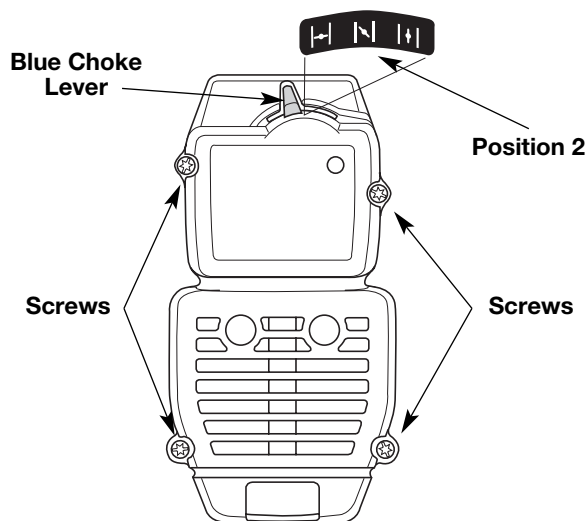

Fig. 21
2. Remove the four (4) screws securing the air filter/muffler cover (Fig. 21). Use a T-20 Torx bit screwdriver.
2. Insert the four (4) screws into the holes in the air filter/muffler cover (Fig. 21) and tighten.